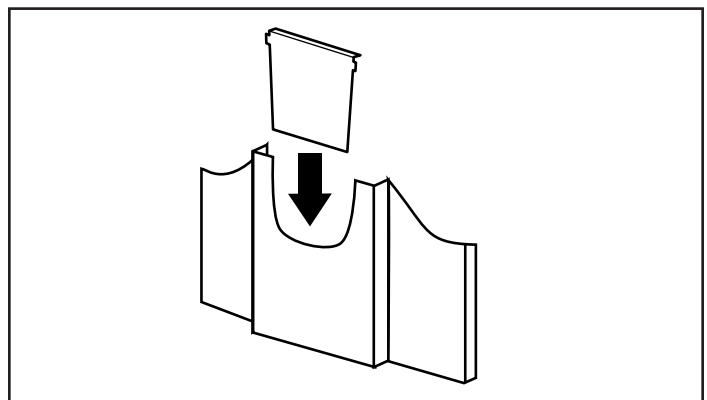

Figure 6 - Defiant, Resolute and Intrepid top exit position.
5. For the Defiant, Resolute and Intrepid, if the stove is in the top-exiting position, slide the flue collar insert into place. (Figure 6)